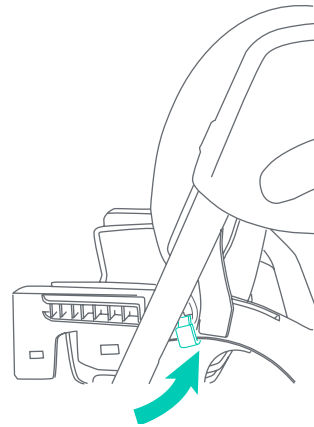

Fig. 20b
- Attach each anchor hook of the Seat Pad to the side of the seat armrest (Fig. 20b).